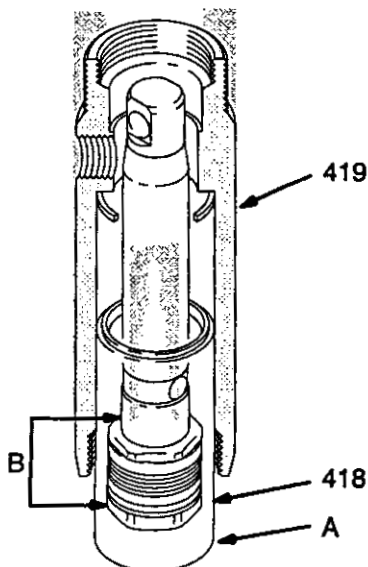

Fig. 32 03491
NOTE: Do not install the sleeve (418) upside down. The tapered end (A) is the bottom of the sleeve. See Fig. 32.
10. Coat the piston rod and packings with oil. Carefully slide the assembly (B) into the top of the sleeve. Then slide the sleeve/piston rod assembly into the bottom of the cylinder. This procedure helps prevent damaging the packings during reassembly. See Fig. 32.